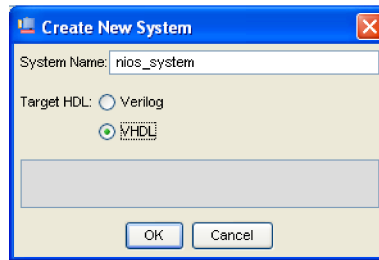
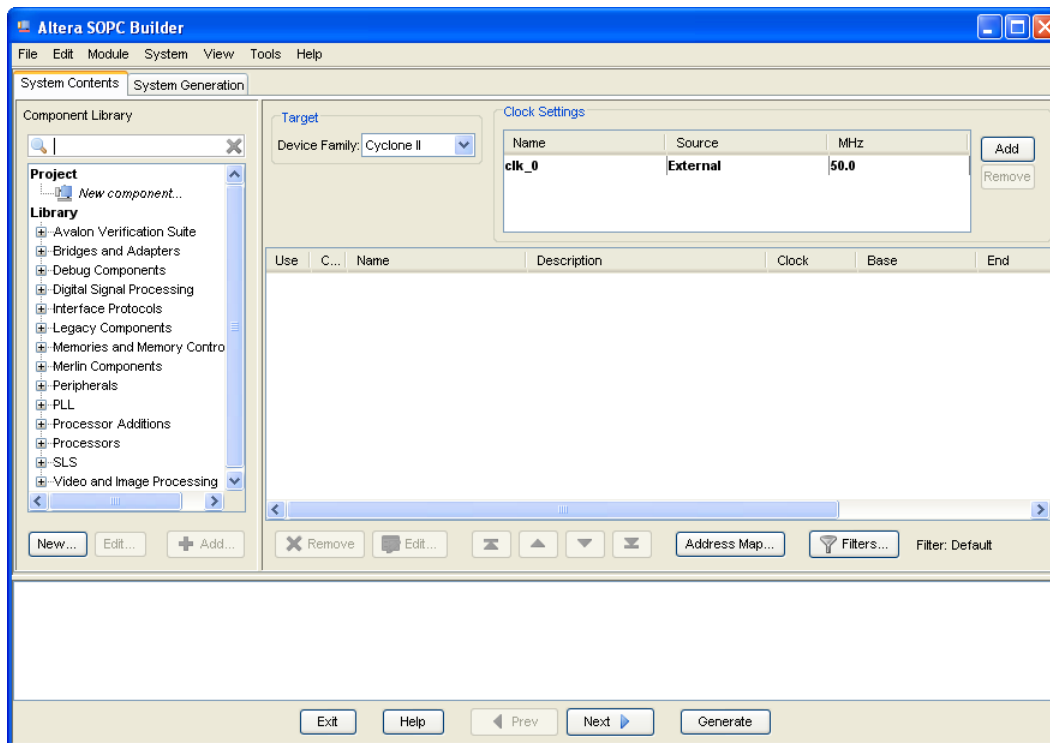
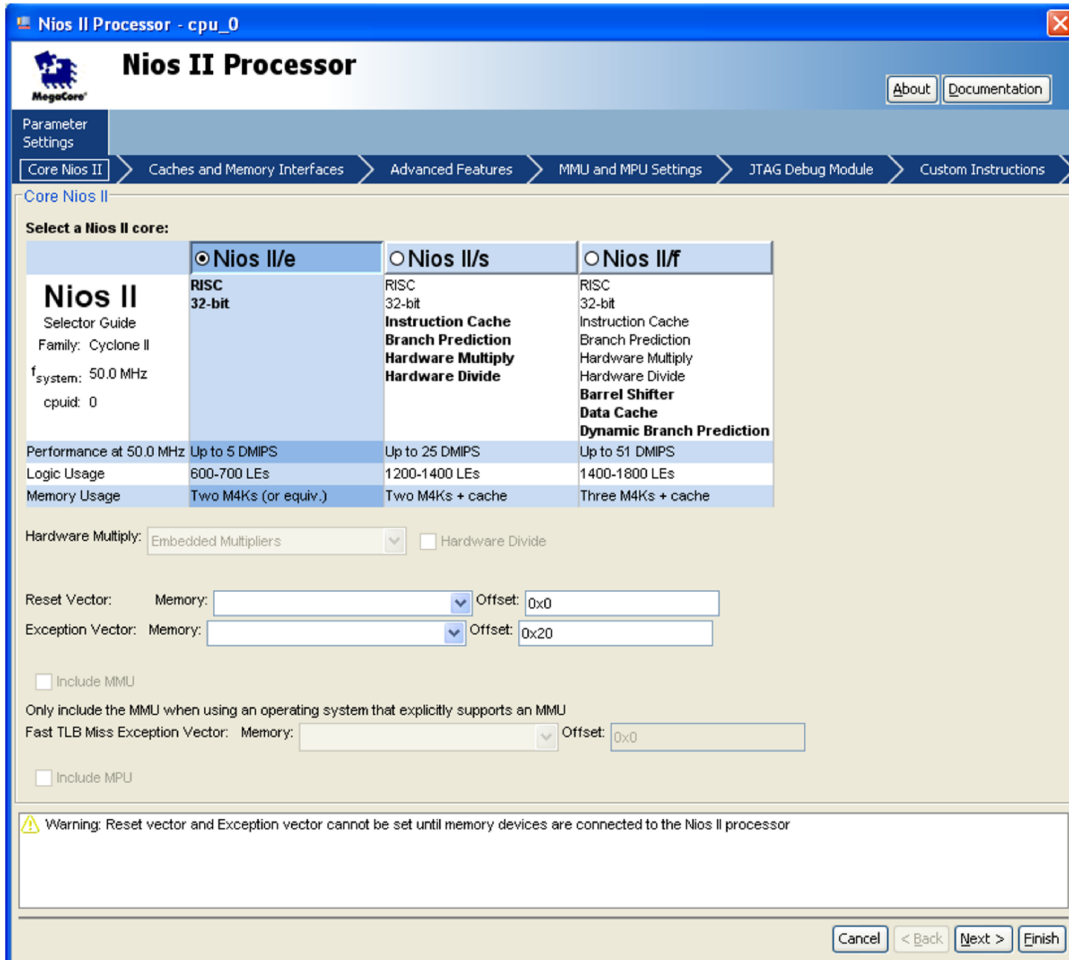
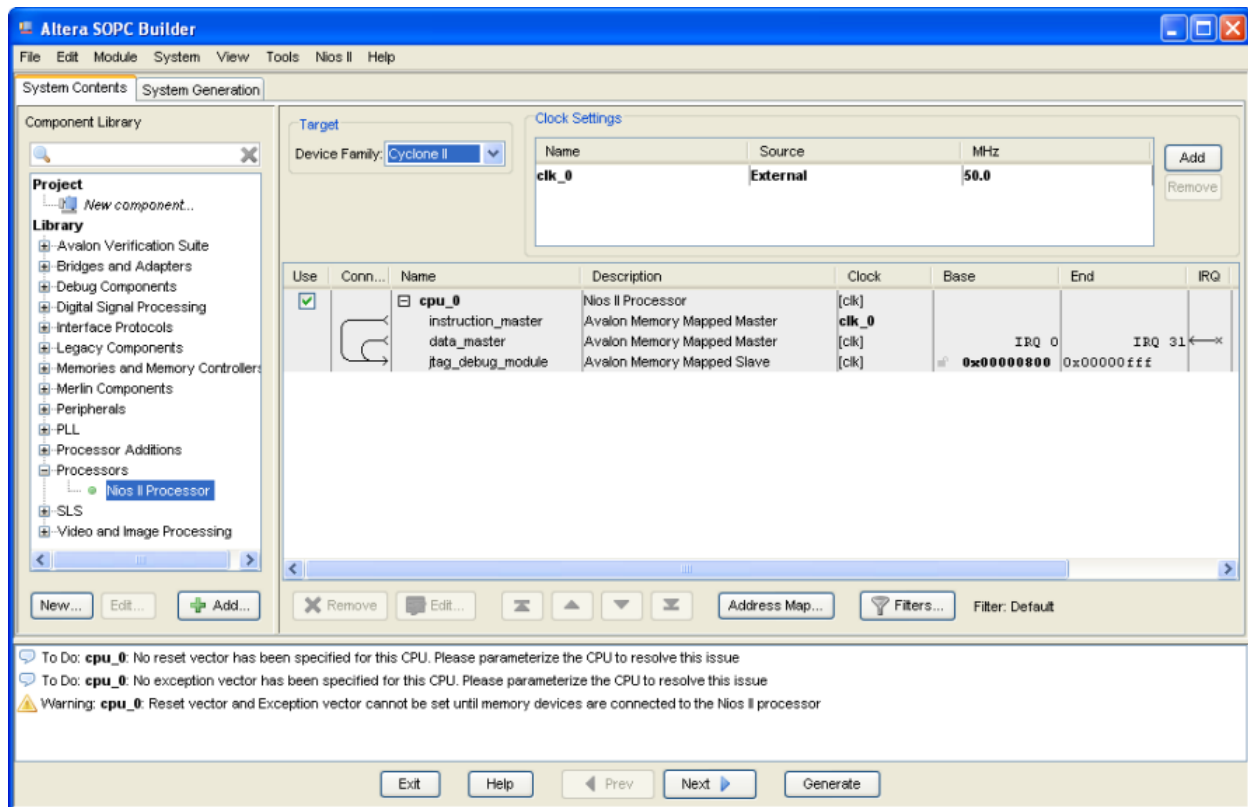

Figure 4. Create a new Nios II system.
Figure 5. The System Contents tab window on a DE-series board.
Figure 6. Create a Nios II processor.
Figure 7. The defined processor on a DE-series board.
2. Select Tools > SOPC Builder, which leads to the pop-up box in Figure 4. Enter *nios_system* as the system name; this will be the name of the system that the SOPC Builder will generate. Choose VHDL as the target HDL, in which the system module will be specified. Click OK to reach the window in Figure 5. Quartus may recommend you to use Qsys. Click OK to proceed.
3. Figure 5 displays the System Contents tab of the SOPC Builder, which is used to add components to the system and configure the selected components to meet the design requirements. The available components are listed on the left side of the window. Before choosing our components, examine the area in the figure labeled **Target**. Check the setting for the **Device Family** and ensure that the correct family is selected for the DE-series board. Table 1 lists the device families associated with DE-series boards.
4. The Nios II processor runs under the control of a clock. For this tutorial we will make use of the 50-MHz clock that is provided on the DE-series board. As shown in Figure 5, it is possible to specify the names and frequency of clock signals in the SOPC Builder display. If not already included in this list, specify a clock named *clk_0* with the source designated as **External** and the frequency set to 50.0 MHz.
- On the left side of the window in Figure 5 expand Processors, select Nios II Processor and click Add, which leads to the window in Figure 6.
- Choose Nios II/e which is the simplest version of the processor. Click Finish to return to the window in Figure 5, which now shows the Nios II processor specified as indicated in Figure 7. There may be some warnings or error messages displayed in the SOPC Builder Messages window (at the bottom of the screen), because some parameters have not yet been specified. Ignore these messages as we will provide the necessary data later.